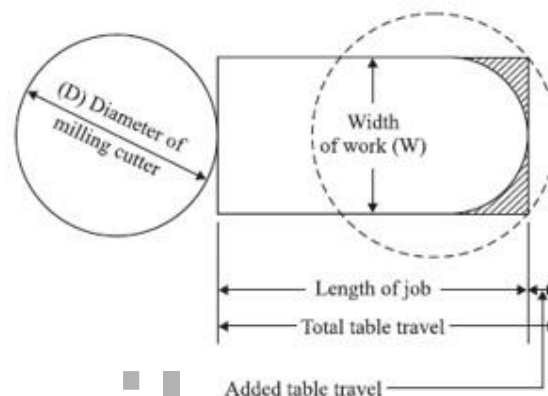

Fig. 5.19. Face milling
**(i) For face milling :** In a face milling operation, refer Fig. 5.19, when the milling cutter has traversed the length of face, some portion of the face is yet to be milled as shown by shaded area.